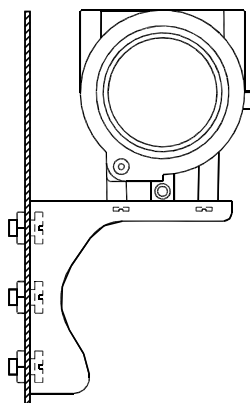

Figure 2.2 The installation of plate mounting angle bracket
**The installation of plate mounting angle bracket:** the typical installation as Figure 2.2 shows. Fix NCS-TT105 temperature transmitter in angle bracket using four bolts provided, and then fix the angle bracket on the plate with the M10 bolt not provided.